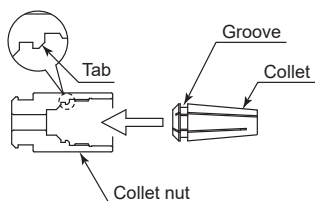
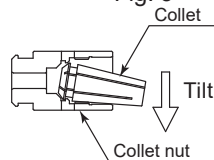

Fig. 3
Fig. 4
- (1) Hold the collet nut in one hand, and install the collet. (Fig. 3)
If the collet is difficult to install, tilt the collet to one side when inserting it, so that the tabs can more easily be seated in the groove. (Fig. 3, Fig. 4)